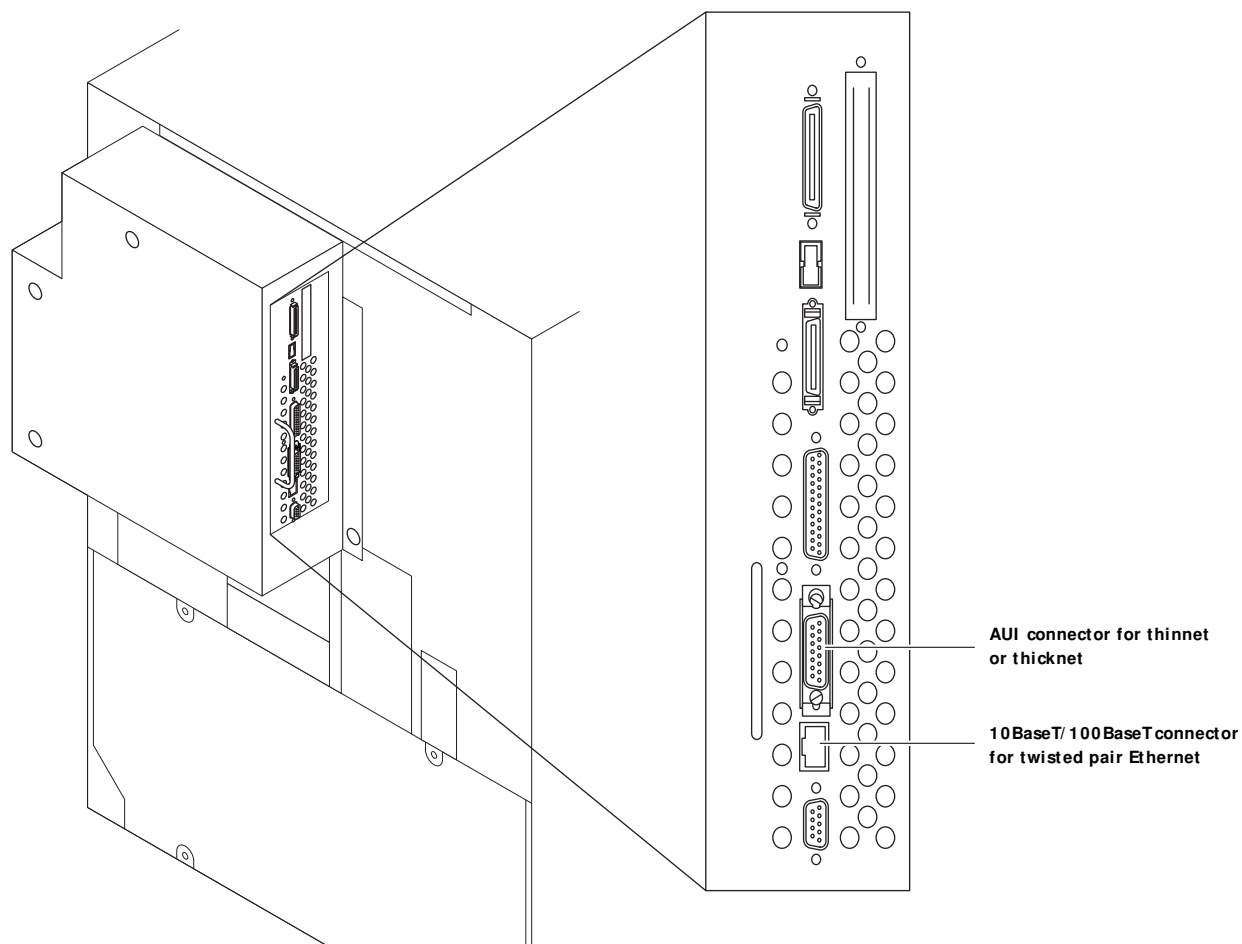

FIGURE 2-8 E-300 network connectors
- A 10BaseT /100BaseT RJ-45 connector for attaching a Category 3 or Category 5 unshielded twisted pair (UTP) network cable (see Figure 2-8). Category 5 is required for 100BaseT.